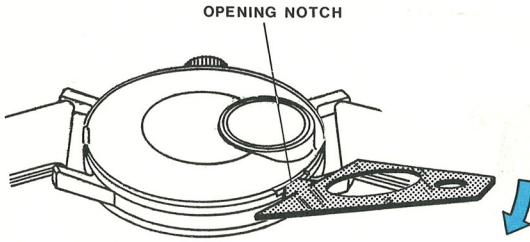

FIGURE 1
- A. Insert blade in the opening notch and snap Case Back off (as shown in Figure 1).